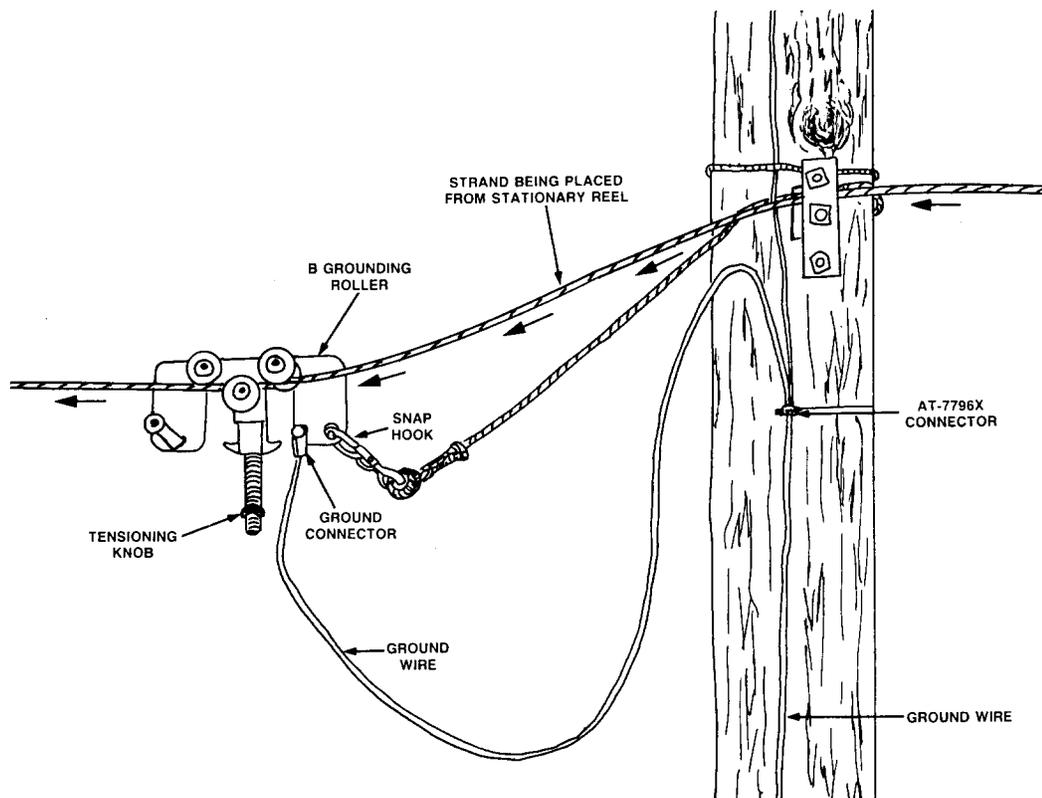

Figure 4 - B Grounding Roller Installed
- (c) Attach the other end of the number 6 ground wire to a low-impedance ground. A connection between a B grounding roller and a vertical ground conductor as illustrated in Figure 4.
- Insert the strand open wire or winch line between the rollers and release the knob. Figure 4 shows the completed installation.